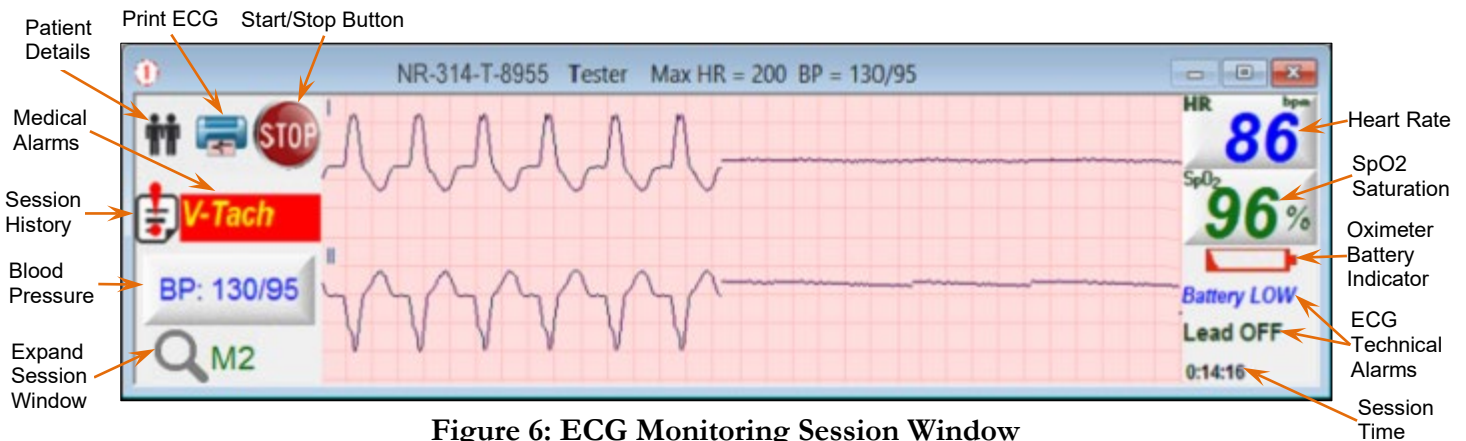

Figure 6: ECG Monitoring Session Window
The following features and options are available during the ECG monitoring session (see Figure 6).
To print the ECG screen, click  on the left panel of the session window (see Figure 6).
1. Click  on the left panel of the session window (see Figure 6).
- To insert BP systolic and diastolic values, click  and insert the values (see Figure 6).
Click  to open the Session History dialog box, and then insert the values (see Figure 6).
- To set HR alarm limits, click  on the right of the ECG session (see Figure 6).
- To set the SpO2 alarm limit, click  on the right of the ECG session (see Figure 6).